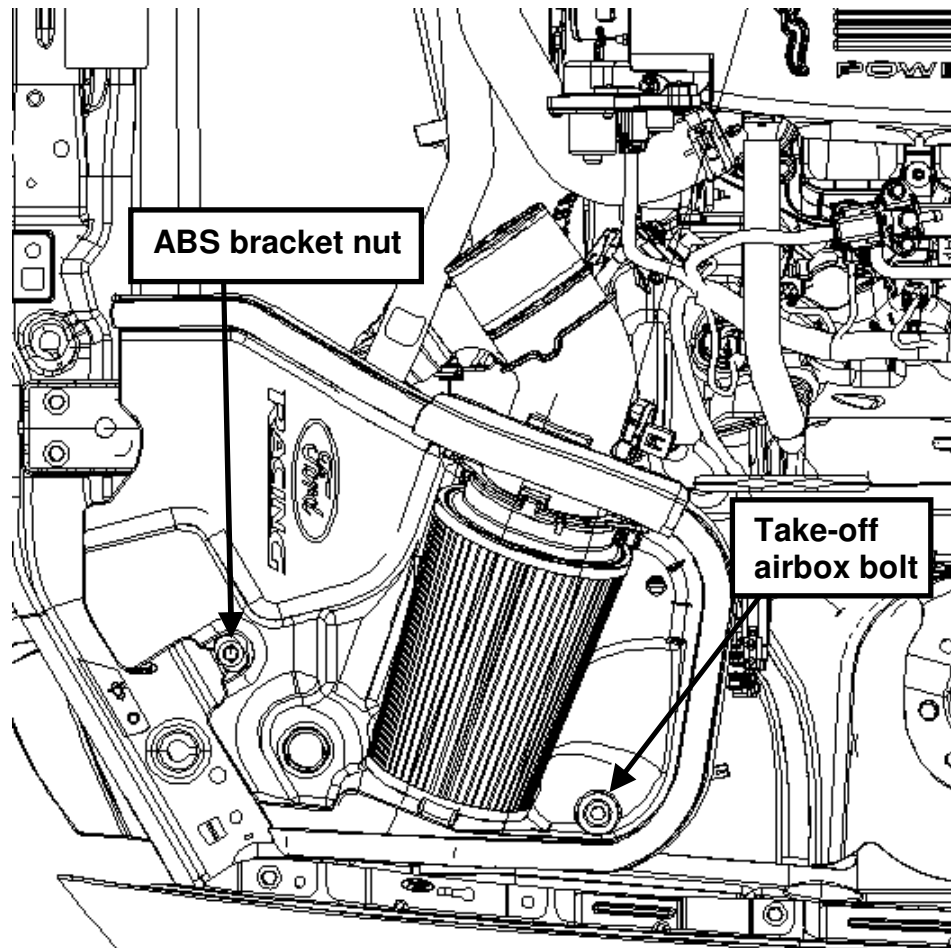

Fig. 6
STEP 4: Lower the complete airbox assembly into the vehicle using the two pegs as guides into the rubber grommets. Use the take-off airbox bolt and newly supplied nut to secure the airbox in the vehicle. Torque the M6 bolt to 8 Nm (70 lb in), and the nut to 8 Nm (70 lb in) (See Fig. 6).